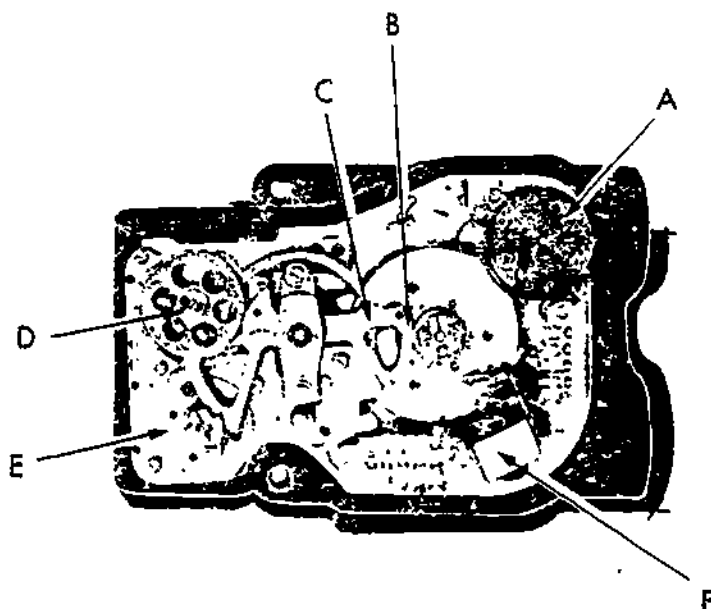

Figure 11.
Figure 11 below shows an open view of the electrical section of a multisynchro fuel flow transmitter commonly used on multi-engine aircraft. This open view shows all of the units in the transmitter except the measuring section (fuel section). The electrical section also includes the unit necessary to operate a totalizer indicator. The units shown in figure 11 include an adjustable synchro transformer (A), movable vane pinion gear (B), sector gear (C), linear synchro with pinion gear (D), transmitter synchro (E), and an autotransformer (F).
Refer to figure 11 and circle the letter of the correct response to the following statements.
The vane movement of the transmitter is transferred through the magnetic coupling to the vane pinion gear. The three segmented sector gear "C" is meshed with the pinion gear at point (B). The other two segments of the sector gear mesh with the gears that drive the rotor of the transmitter synchro (E) and the rotor of the linear synchro (D). When the vane moves, the pinion gear moves, driving both synchro rotors by movement of the sector gear. Refer to figure 11.
Refer to figure 11 and circle the letter of the correct responses to the following statements.